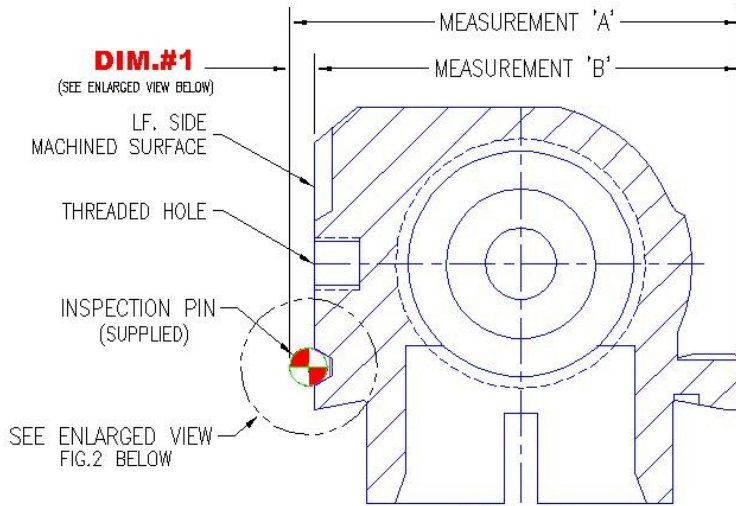

FIG. 1
1) SELECT THE APPROPRIATE SIZED PIN AND PLACE IN LEFT SIDE GROOVE (FIG.1). TO DETERMINE WHICH PIN SIZE WORKS BEST SEE FIG.3 ON Sht.2. THE PIN SHOULD REST ON THE ANGLED FACE INSIDE THE GROOVE (Fig.3a) WITHOUT TOUCHING THE GROOVE BOTTOM (Fig.3b) OR CONTACTING THE CORNERS ON THE WIDEST PART OF THE GROOVE (Fig.3c). OFTEN THE SMALL PIN WORKS BEST WHEN THE GROOVE DEPTH (DIM.#2) IS LESS THAN .055" OR THE GROOVE TOP WIDTH (DIM.#4) IS LESS THAN .135".
2) USING A 6" DIAL CALIPER (GOOD) OR 2" MICROMETER (BEST) FIND MEASUREMENT 'A'. NOTE: MEASUREMENTS 'A' & 'B' MUST BE TAKEN AT THE SAME CROSS-SECTION LOCATION AS SHOWN IN FIG.1.